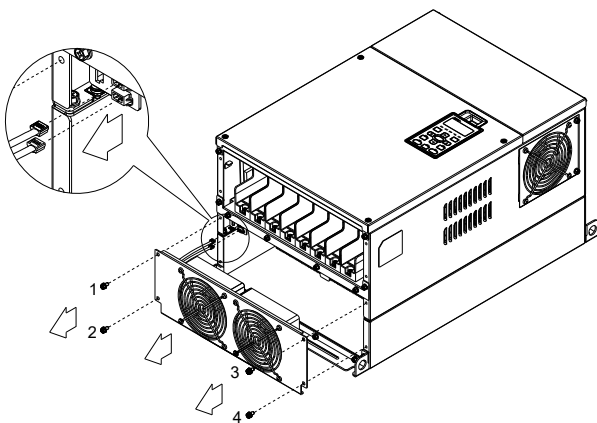

Figure 1
1. Loosen screw 1~4 (figure 1) and disconnect fan power and pull out the fan. (As shown in the enlarged picture 1) Screw1~4 Torque: 24~26 kg-cm / [20.8~22.6 lb-in.] / [2.4~2.5 Nm]